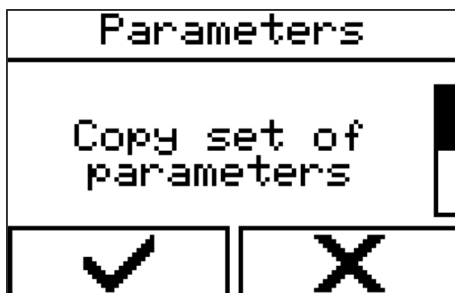

Fig. 128: Selecting a menu
1. → Select the menu via 'Control' → 'Parameter' → 'Copy set of parameter' (Fig. 128).